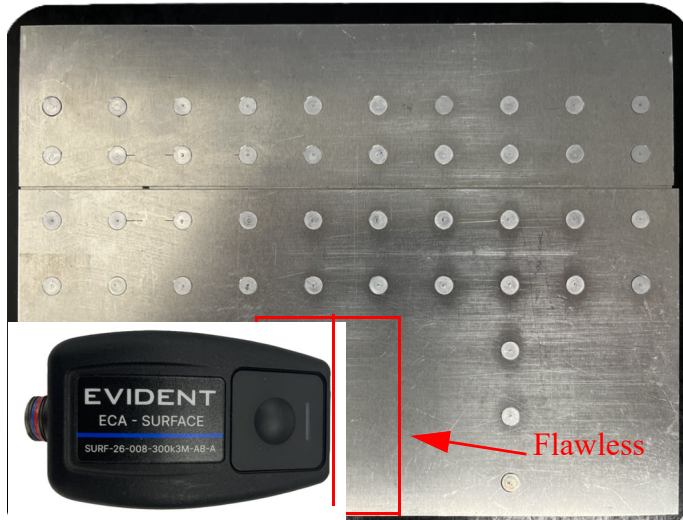

Figure 4-84 Position the Probe
6. Position the probe on the flawless area of the reference standard (See Figure 4-84 on page 181).